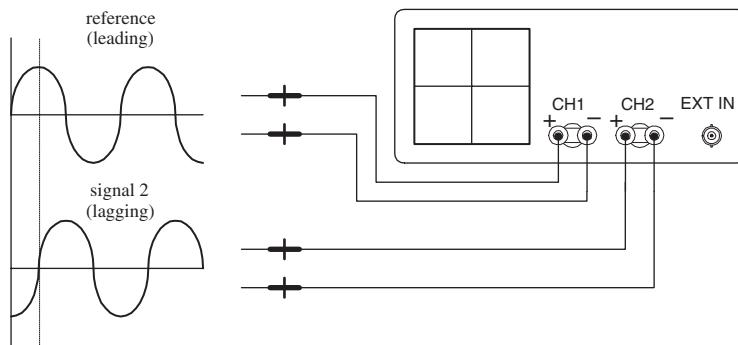

FIGURE 7.42
- Step up your equipment as shown in Fig. 7.42.